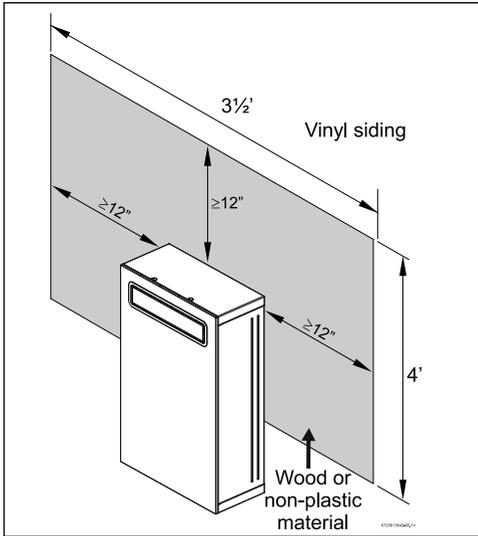

Fig. 7 Installation on vinyl
- ▶ Do not mount heater directly to vinyl siding. With vinyl siding, a 3½' x 4' area of the siding must first be removed and then replaced with wood or other non-plastic material. See fig. 7.